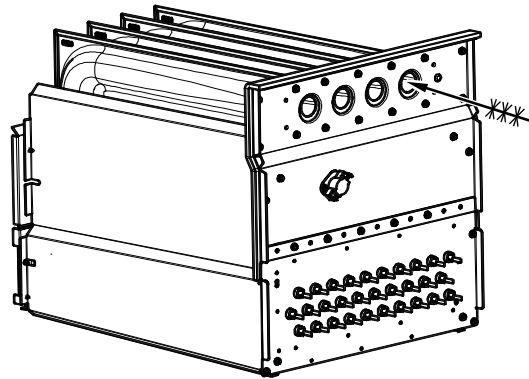

Fig. 69 – Cleaning Heat Exchanger Cell
7. Clean heat exchanger openings with a vacuum and a soft brush, see Fig. 69.